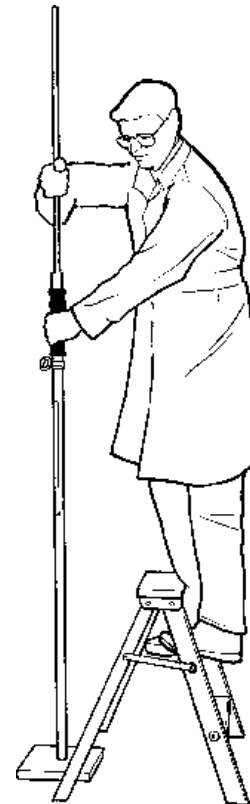

Figure 10.5 Use bushing driver p/n 22000-96101 in a slide-hammer fashion to force bushings from the shaft tube.
STEP 3. Lift the tube slightly and continue using the bushing driver. The entire stack of bushings should slide from the tube (Figure 10.5).